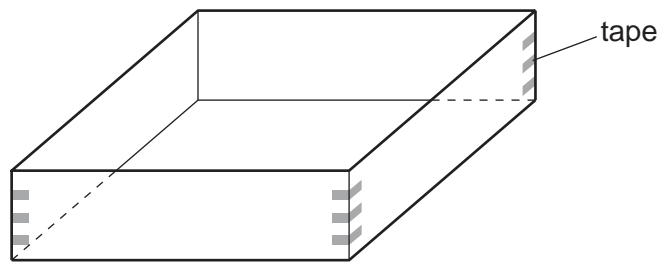

Fig. 3.1
2. The cardboard screen should be made from four pieces of cardboard, each of length approximately 50 cm, taped together as shown in Fig. 3.1.